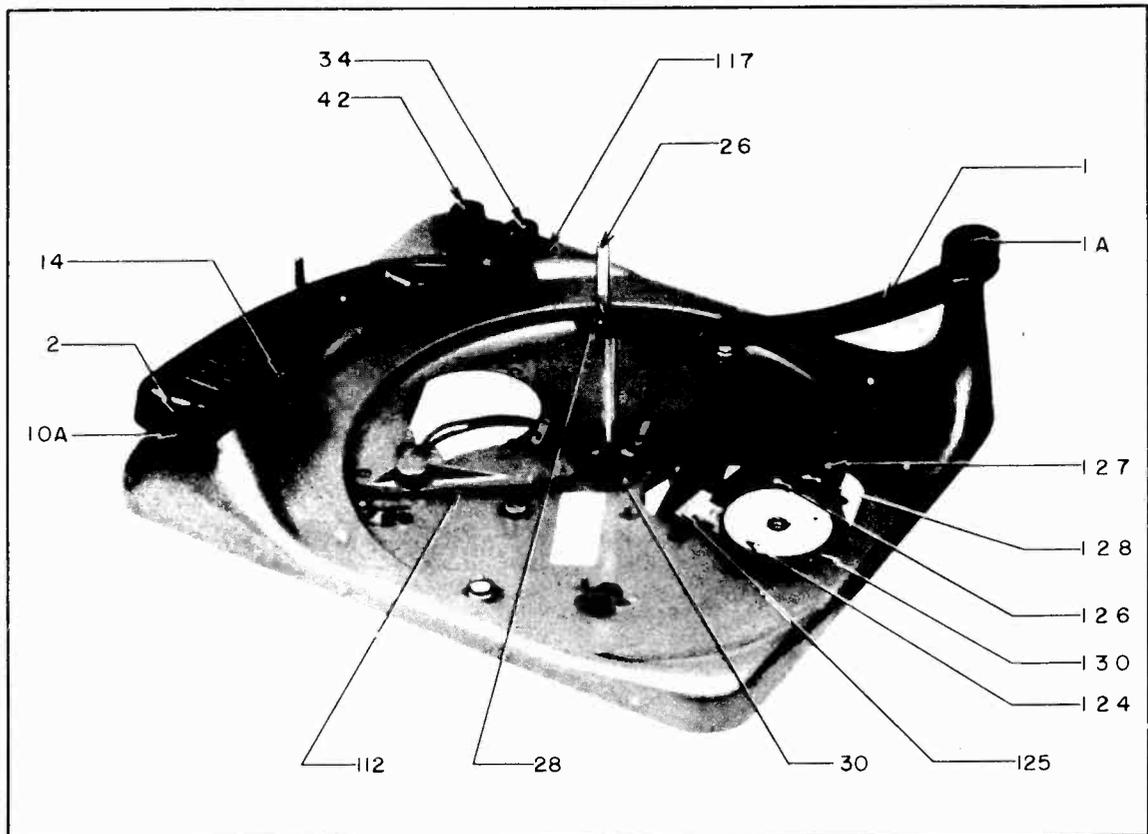

Fig. 1. Top View
TO PLAY A SINGLE RECORD—(See Fig. 1.) To play single records or home recordings, lift up the record support (1) and move it counterclockwise out of the way. Place the record on the spindle and lower to the spindle shelf. Tilt the record down towards the rear of the tone arm and lower the record to the turntable. Place the proper pickup head into the pickup arm (brown for standard groove records, or red for microgroove records). Turn the Control Knob (34) to proper speed position. Turn the Control Knob (42) to "ON" position, and trip the Index Trigger (14) on the rear inside of the Pickup Arm. Place Pickup Arm on the record with the stylus in the leading groove of the record. Then replace record support (1) over spindle.
7. Turntable ball bearing (30, Fig. 1).
3. Turntable and spindle bearing (30, Fig. 1).